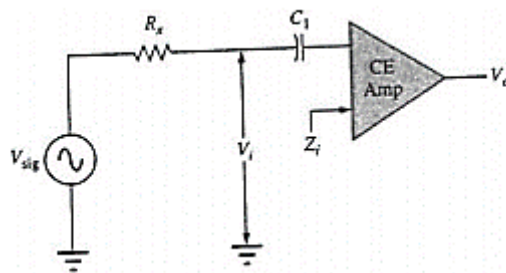

Figure 6: Circuit for determining input impedance
1. To determine the input impedance of this amplifier, connect an input measurement resistor, $R_x=1k\Omega$, as shown in Figure 6. Apply the same input signal (50mVpk at 1 kHz) but this time through this known resistance. Measure V_i i.e., the signal after this resistor R_x . Note down in Table 3.